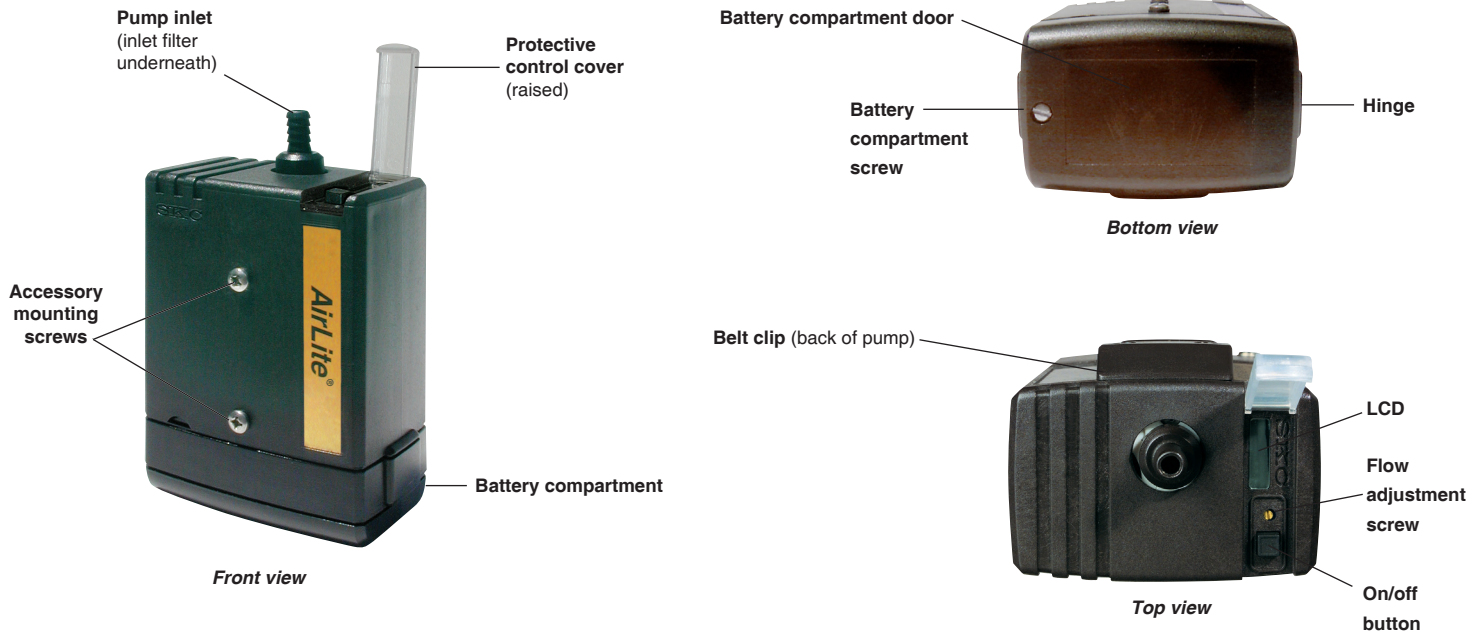

Figure 1. AirLite Sample Pump with Timer
The AirLite Sample Pump with Timer (Figure 1) provides 5 to 3000 ml/min flows and is suitable for abatement, indoor air sampling, and emergency response in non-hazardous locations.
The AirLite with Timer is powered by three standard AA alkaline batteries located in a compartment on the bottom of the pump (*Figure 1*). To insert new or replace existing batteries:
1. Use a slotted screwdriver to loosen the screw on the bottom of the case (*Figure 1*).
4. With the new batteries in place, insert the hinge (*Figure 1*) on the compartment door under the lip of the case, close the door, and tighten the screw until secure.
1. Turn on the pump using the on/off button (*Figure 1*) and run for 5 minutes before calibrating. Leave the pump running.
4. Using a small screwdriver, set the pump flow rate by turning the flow adjustment screw (*Figure 1*) **clockwise** to increase the flow or **counterclockwise** to decrease the flow until the calibrator indicates the method-specified flow rate. Take a minimum of three readings and record the average flow rate, as per OSHA/NIOSH instructions.
1. Turn on the pump using the on/off button (Figure 1) and run for 5 minutes before calibrating. Leave the pump running.
3. Set the pump flow rate to 1.5 L/min. Using a small screwdriver, turn the flow adjustment screw on top of the pump (Figure 1), **clockwise** to increase flow or **counterclockwise** to decrease flow, until the calibrator indicates 1.5 L/min.